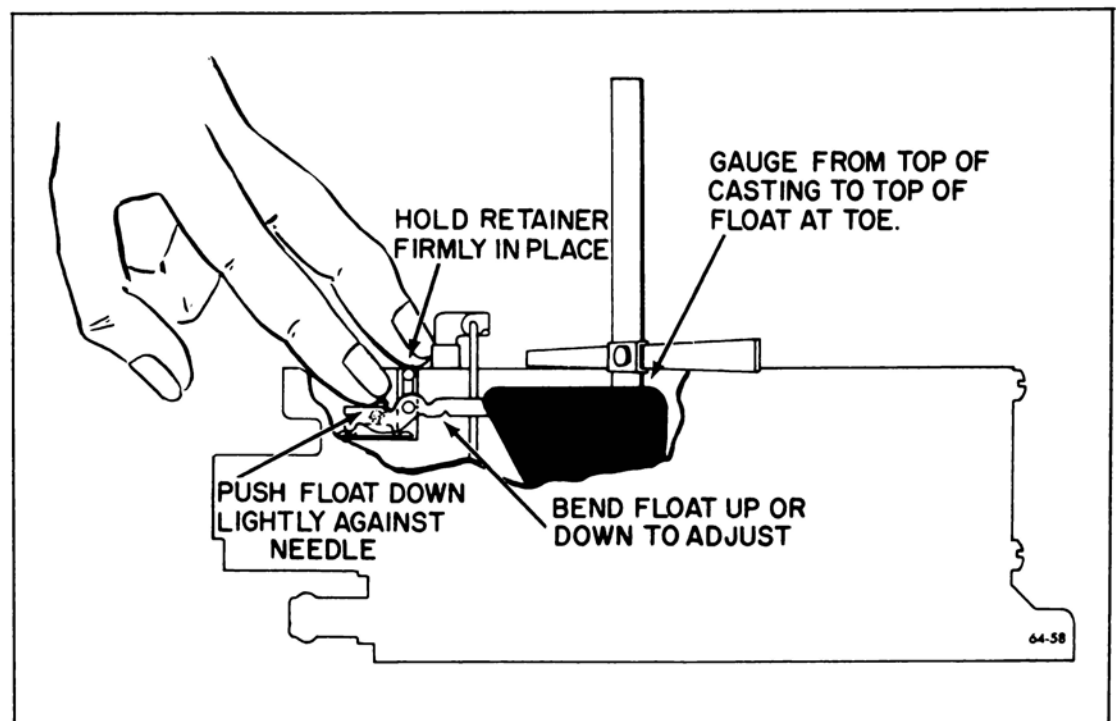

Figure 64-33—Float Level Adjustment
a. With adjustable T-scale, measure from top of float bowl gasket surface (gasket removed) to top of float at toe (locate gaging point 1/16" back from radius at toe). See Figure 64-33.